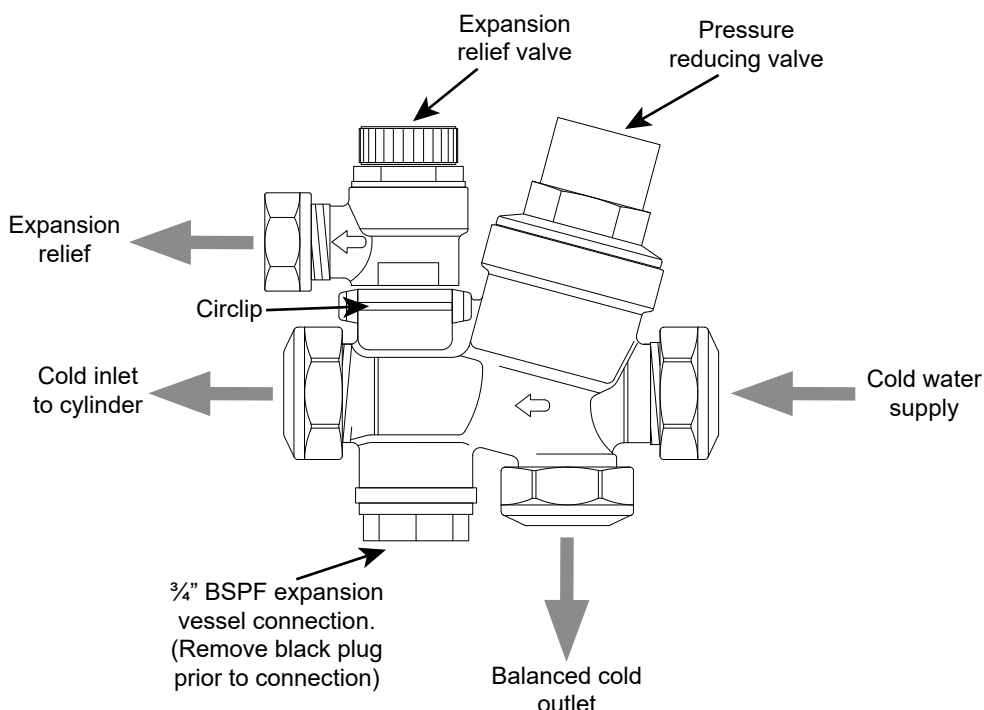

Figure 4-1: Cold water inlet manifold
A balanced cold water connection is provided on the inlet manifold. Refer to Figure 4-1. This should only be used to provide balanced cold supplies to shower valves and mixer taps. If the balanced cold water outlet is not required, blank off this port.
6. Connect the expansion vessel directly to the ¾" BSPF connection in the inlet valve manifold body, after removing the black plastic plug. See Figure 4-1 and Section 4.4.
A 3/4" BSPF connection is provided on the supplied cold water inlet manifold, for the purpose of expansion vessel connection. Refer to Section 4.3 and Figure 4-1.